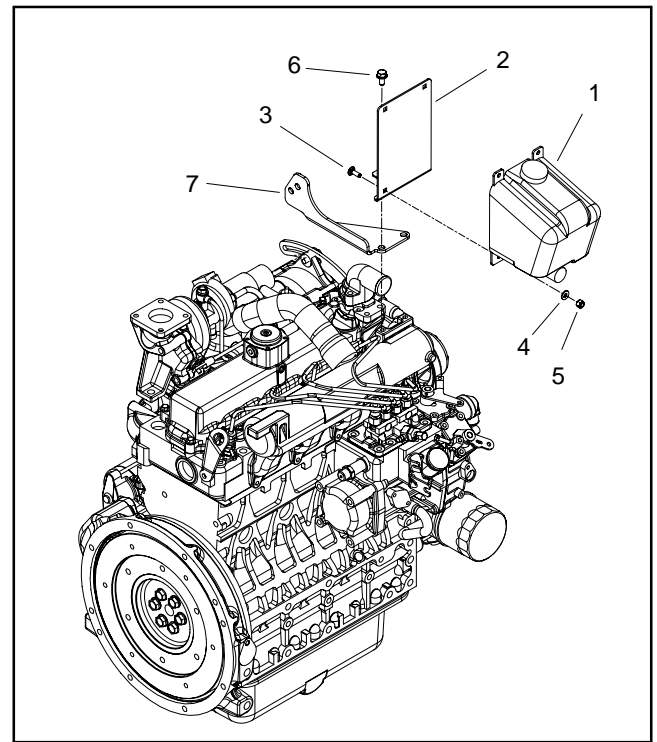

Figure 16
C. Remove six (6) cap screws and flange nuts that secure fan motor bracket to radiator.
A. Remove windshield washer reservoir from reservoir mount on engine (Fig. 16). Position reservoir away from engine. Do not remove reservoir mount from engine.
- A. Position windshield washer reservoir to bracket reservoir mount on engine (Fig. 16). Secure with removed fasteners.